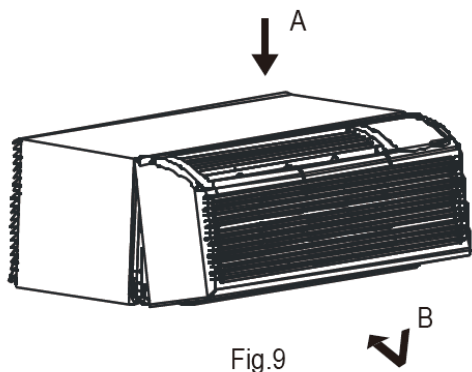

Fig.9
- Reinstall front panel. (See Fig.9)